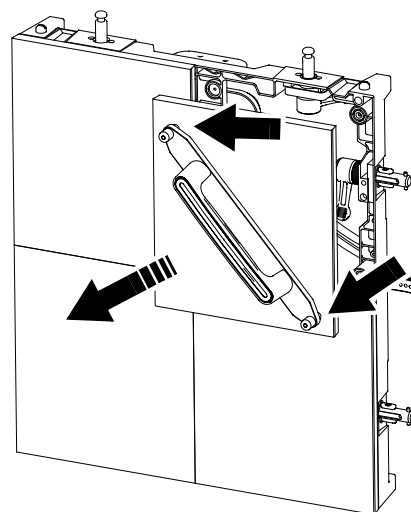

**Figure 39: Replacing an LED block, rear access**
1. See Figure 39. Take hold of the handle on the back of the LED block and push the block towards the front of the panel until it is disconnected from its multiconnector and released from its magnetic holders.
3. Depending on whether you have access to the front or rear of the panel, use the removal tool shown in Figure 40 or the handle shown in Figure 39 to reinstall the block. You will need to use a little pressure to reconnect the LED block's multi-connector, but do not use excessive force.